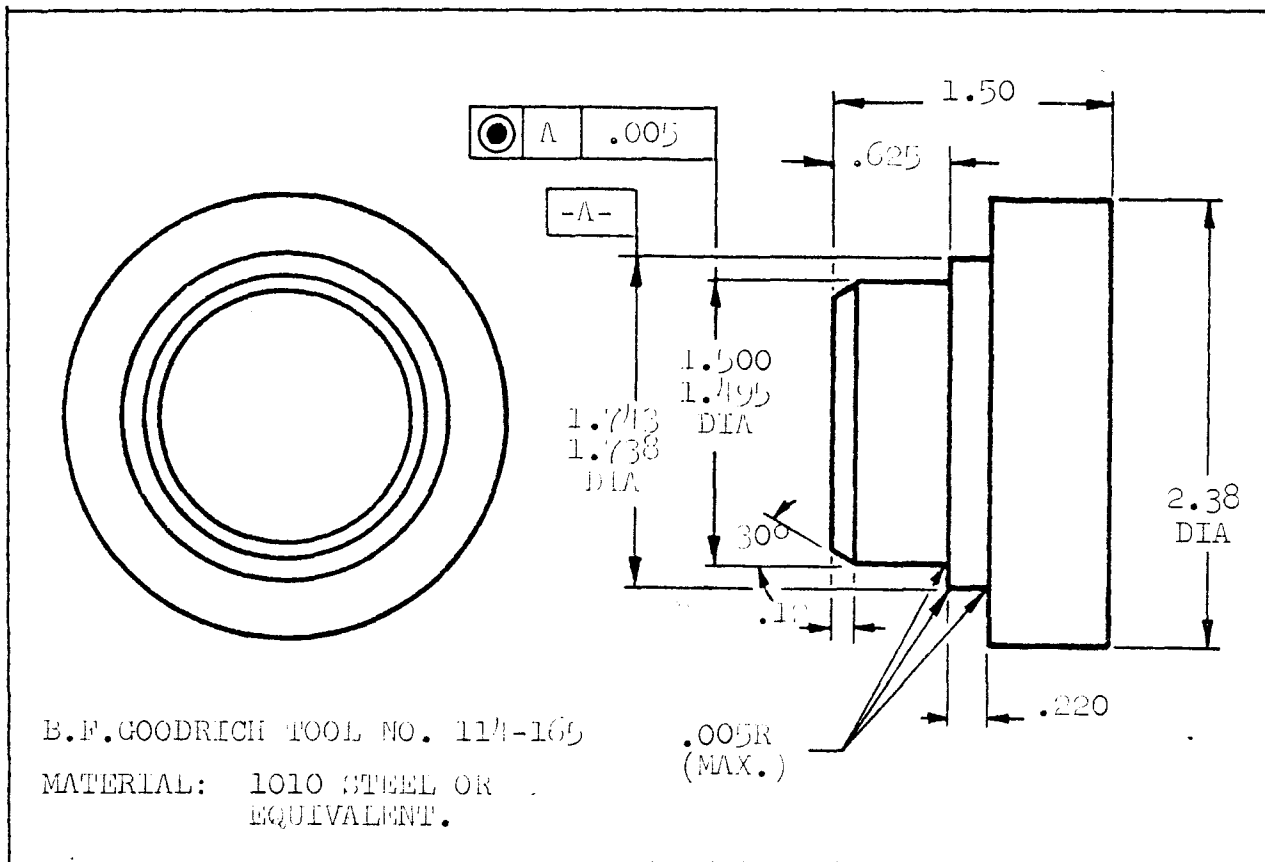

Figure 1. Journal Bearing Insertion Tool
- 4.15 Install new journal bearing (22) in cap assembly (23) using BFGoodrich Tool No. 114-163 or equivalent (See Figure 1). Tool will install journal bearing in cap to a depth of 0.220 inch.